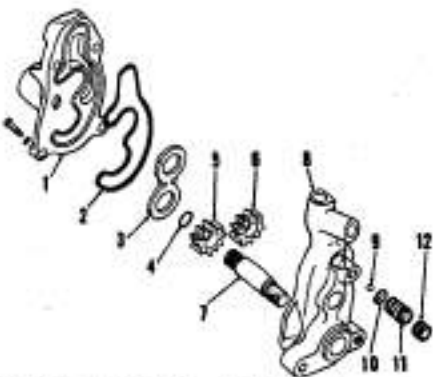
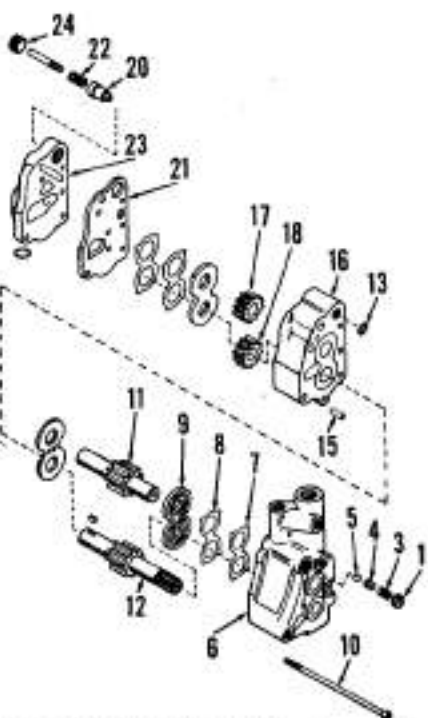

Fig. 243—Exploded view of single section auxiliary pump used on some models.
Fig. 244—Exploded view of dual section auxiliary pump showing component parts.
**232.** Two different auxiliary pumps have been used. Pump shown in Fig. 243 is used on tractors equipped only with Multi-Power transmission and/or independent pto. Dual section pump shown in Fig. 244 is used for auxiliary hydraulic applications as well as for Multi-Power or independent pto pressure.
**233. SINGLE PUMP.** To disassemble the removed pump, first remove snap ring retaining drive gear to pump shaft. Remove cap screws securing pump to gear train mounting plate, then remove pump. Remove cap screws attaching end cover (1—Fig. 243) to body (8) and separate pump components.
**234. DUAL PUMP.** It is recommended that auxiliary hydraulic system pressure be checked prior to servicing the hydraulic pump. The pressure can be checked at an auxiliary valve outlet using suitable pressure gage and fittings. System pressure should be between 15860-17925 kPa (2300-2600 psi). Hydraulic lift cover must be removed for access to the adjustable high pressure relief valve which is located in pump rear cover plate (23—Fig. 244).
separate pump components as shown in Fig. 244. Use care to avoid damaging machined mating surfaces and gear pockets of pump bodies. Do not remove high pressure adjusting screw (24); screw is staked in place and setting should not be changed.